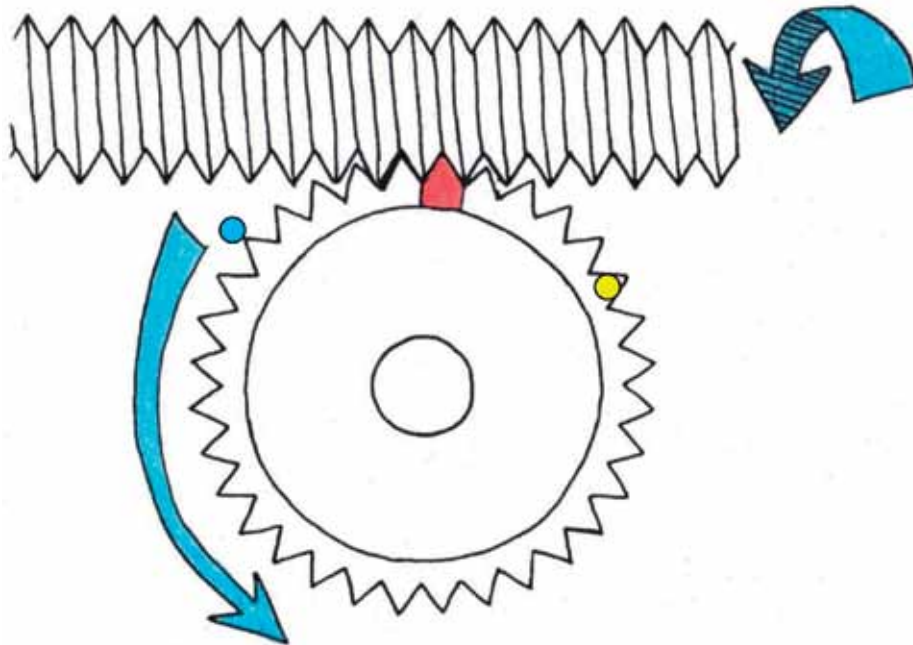

Figure 26
In Figure 26 below, you can see that the worm driver touches three of the wheel's teeth. Only the red tooth on the right is actually pushed by the worm as it turns.
After five revolutions of the worm, the red tooth will be at the blue dot in Figure 26, and the yellow dot will be where the red tooth was at the start.
1. If the wheel in Figure 26 has 32 teeth, how many revolutions will the worm have to make for the wheel to make one full revolution?